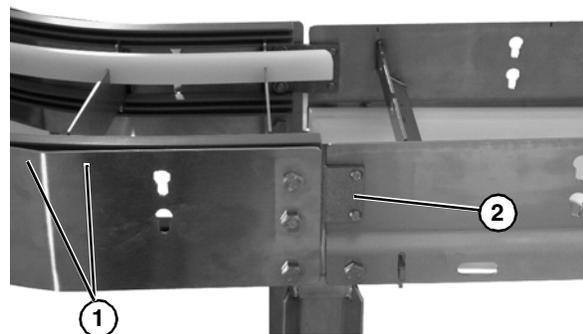

Figure 17
5. When securing straight section to curved section on outside curve (Figure 17, item 1) make sure offset plate (Figure 17, item 2) is to the outside of straight section.